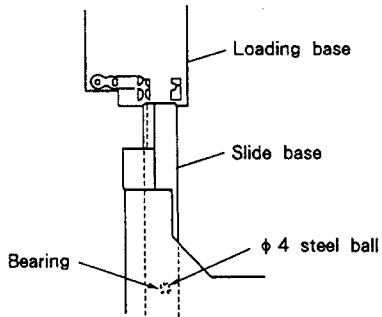
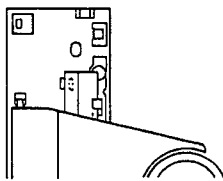

Fig. 7-9
Fig. 7-10
<p>Re-mount the disc tray according to the following procedure when the grating adjustment is complete.</p> <ol style="list-style-type: none"> 1. Remove the disc and the spacer. 2. While lifting the clamp holder [marked ① in Fig. 7-4] with the right hand, hold the tray in the left hand as indicated by ② and slide the slide base into the hard resin fittings on the loading base as shown in Fig. 7-9 to re-insert the disc tray. At this time, be sure to hold the steel ball in place with the index finger of the left hand. Also, be careful that the front panel is not damaged by the slide base and steel ball's bearing (in the slide base) coming into contact with the panel. 3. Insert the slide base so that it fits into the two hard resin fittings at the rear of the loading base (see Fig. 7-10). 4. Insert the tray tightly.